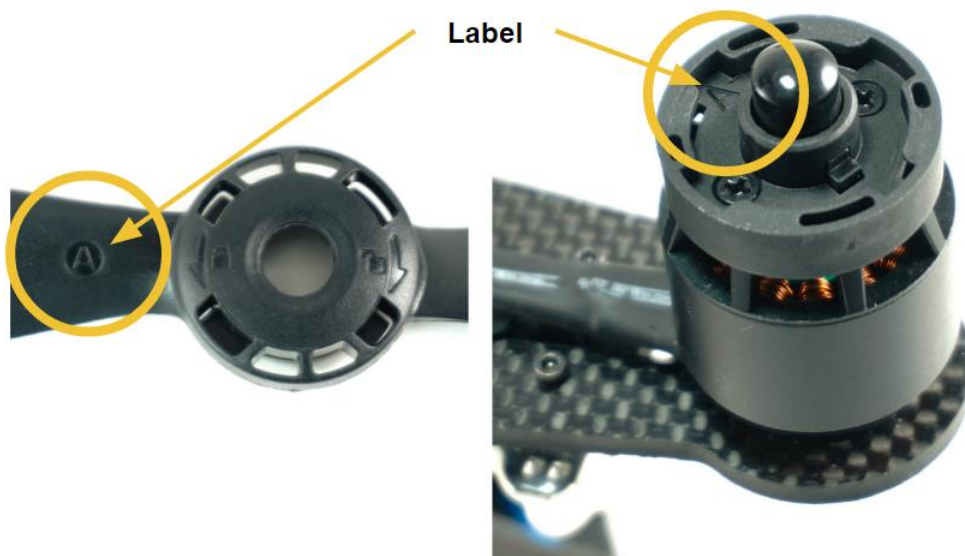

Figure 3. Propeller Identification
- c. Attach the propellers (see Figure 3)